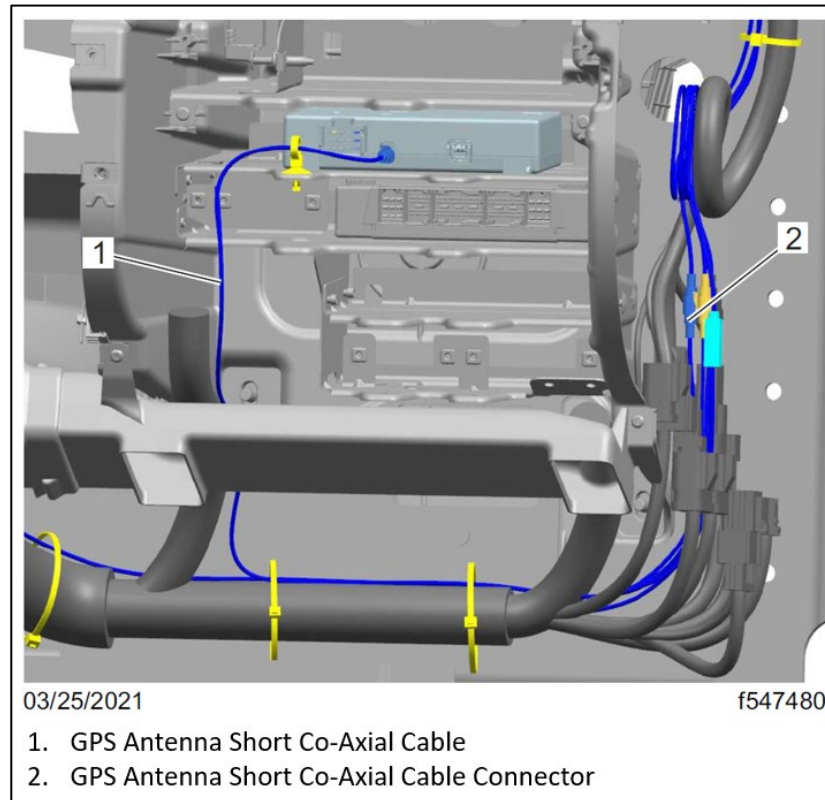

Fig. 56, Cummins Acumen GPS Antenna Short Co-Axial Cable Installation
10. Install the short co-axial cable by connecting one end to the Cummins Acumen module, and route it to the right side of the electronics bay. See Fig. 56. Secure the cable to existing clipping points or tie straps.